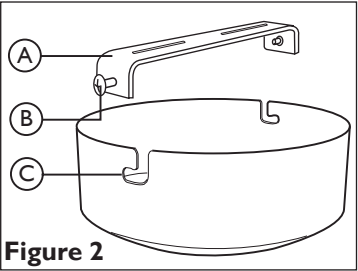

Figure 2
Refer to Figure 2. Remove the fixing bracket (A) from the ceiling cover by loosening the side screws.
Refer to Figure 4. Attach the product to the ceiling. This product has “L” shaped fixing slots (C) to allow easy attachment to the fixing bracket, as shown in Figure 2. Locate the “L” slots around the small screws (B) on the fixing bracket (A). Rotate the ceiling cover to attach the product to the bracket. Tighten the screws to secure. Take care not to trap any wiring.